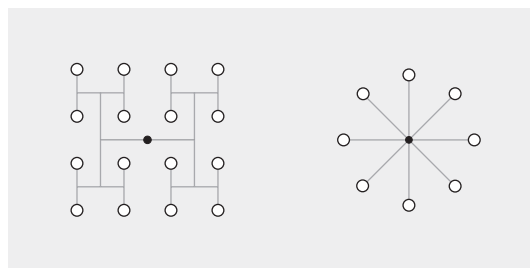

Figure 3: Balanced runner system
- ▶ A balanced runner system in the mould is important in order to ensure that all cavities are filled evenly (see Figure 3).